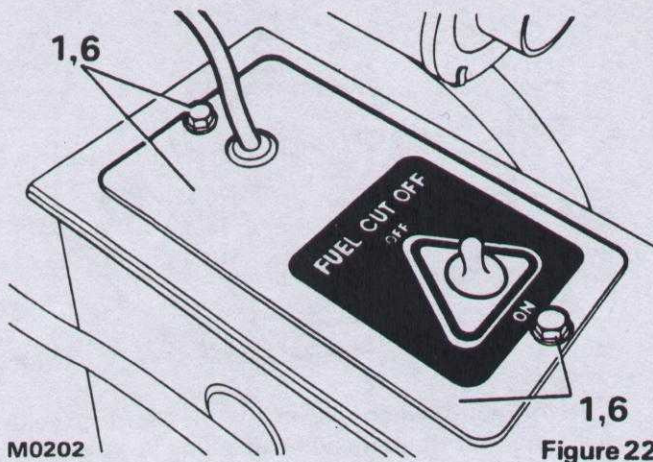

Figure 22
- 1 Remove two retaining bolts and carefully lift access plate from pedal box, see figure 22.